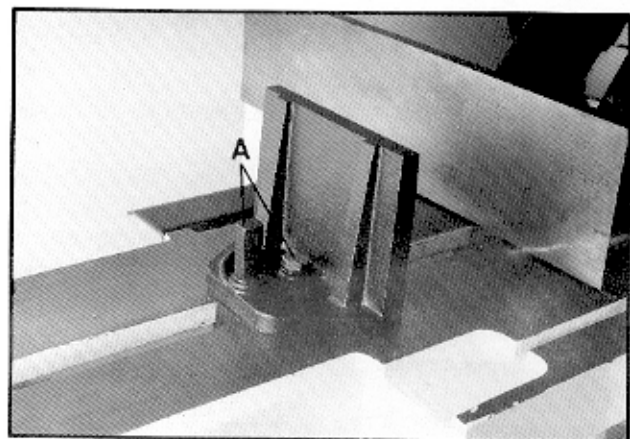

Fig. 17
3. Adjust the movable vise parallel to the fixed vise by loosening bolt (A Fig. 17) adjusting to parallel and tightening bolt.